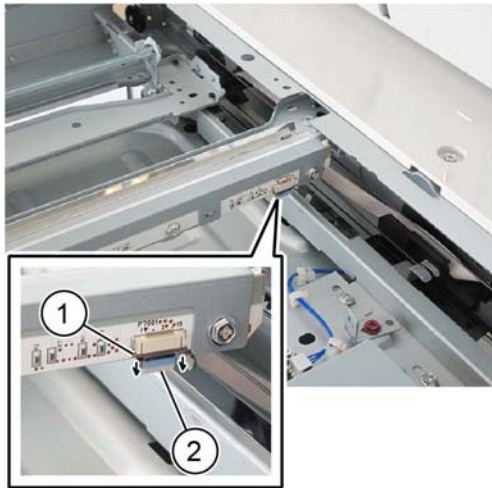

Figure 1 FFC LED cable assembly
4. Disconnect the FFC LED cable assembly, **Figure 1**:
- a. Move the connector housing catch (2) in the direction of the arrows.